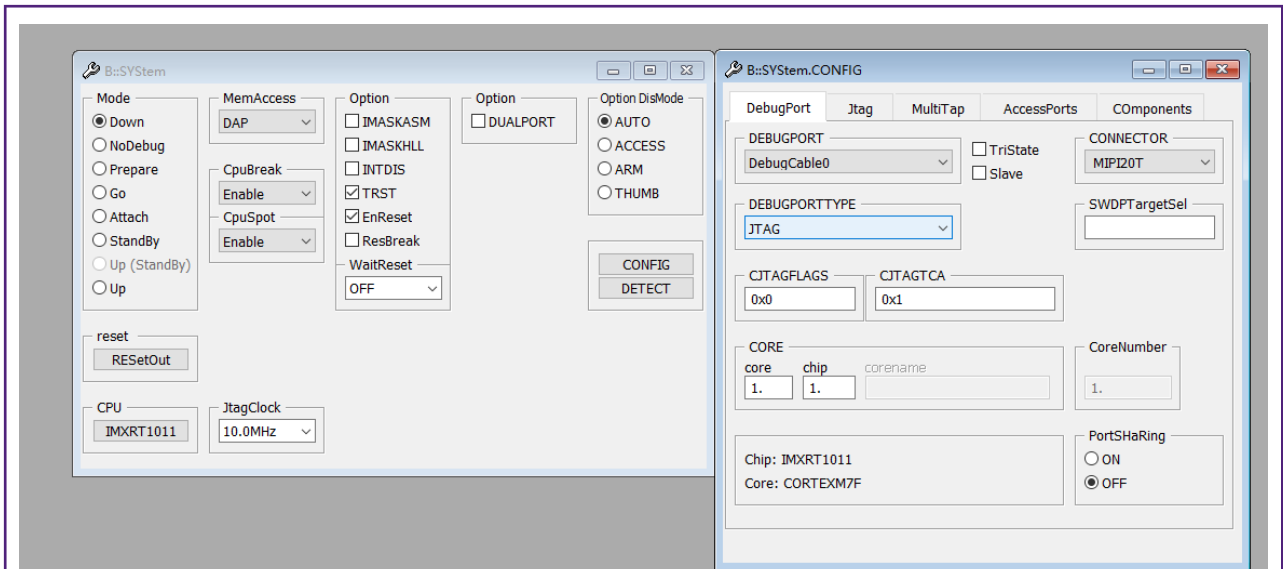

Figure 6. Setting debug port type to JTAG
2. Set debug port type to **JTAG**, as shown in Figure 6.